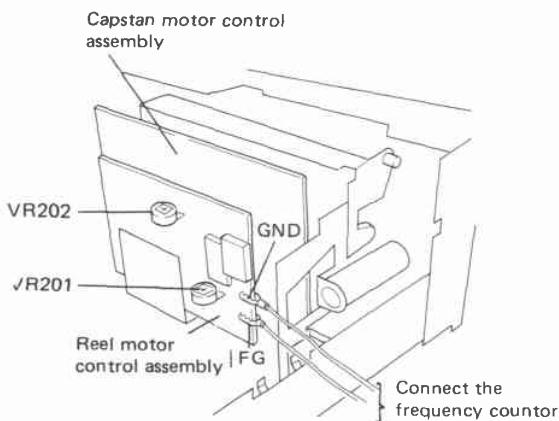

Fig. 11-5 FF/REW Rotating speed adjustment
1. Connect the frequency counter between FG of reel motor control assembly and GND (Fig. 11-5).
3. Adjust VR201 so that the take-up torque is $45 \pm 5\text{ g-cm}$ (Fig. 11-5).